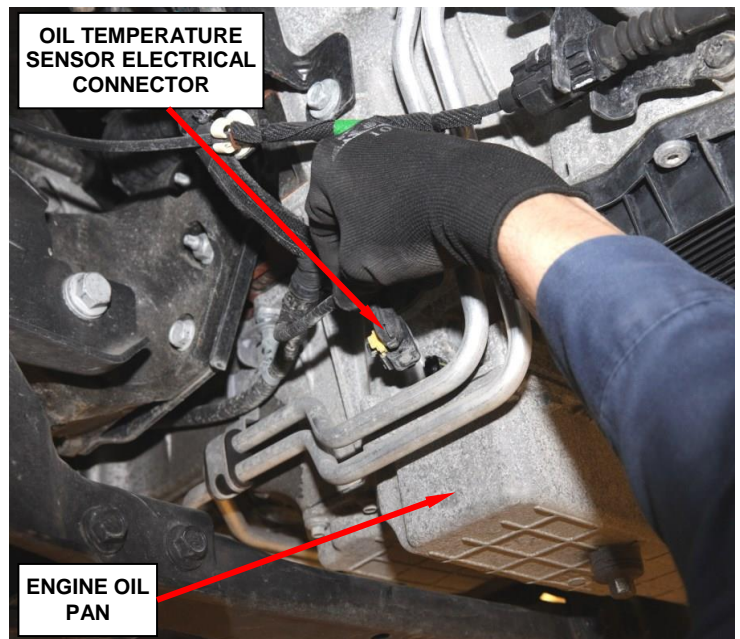

Figure 9 – Engine Oil Temperature Sensor
21. Disconnect the oil temperature sensor electrical connector (Figure 9).
38. Connect the oil temperature sensor electrical connector (Figure 9).